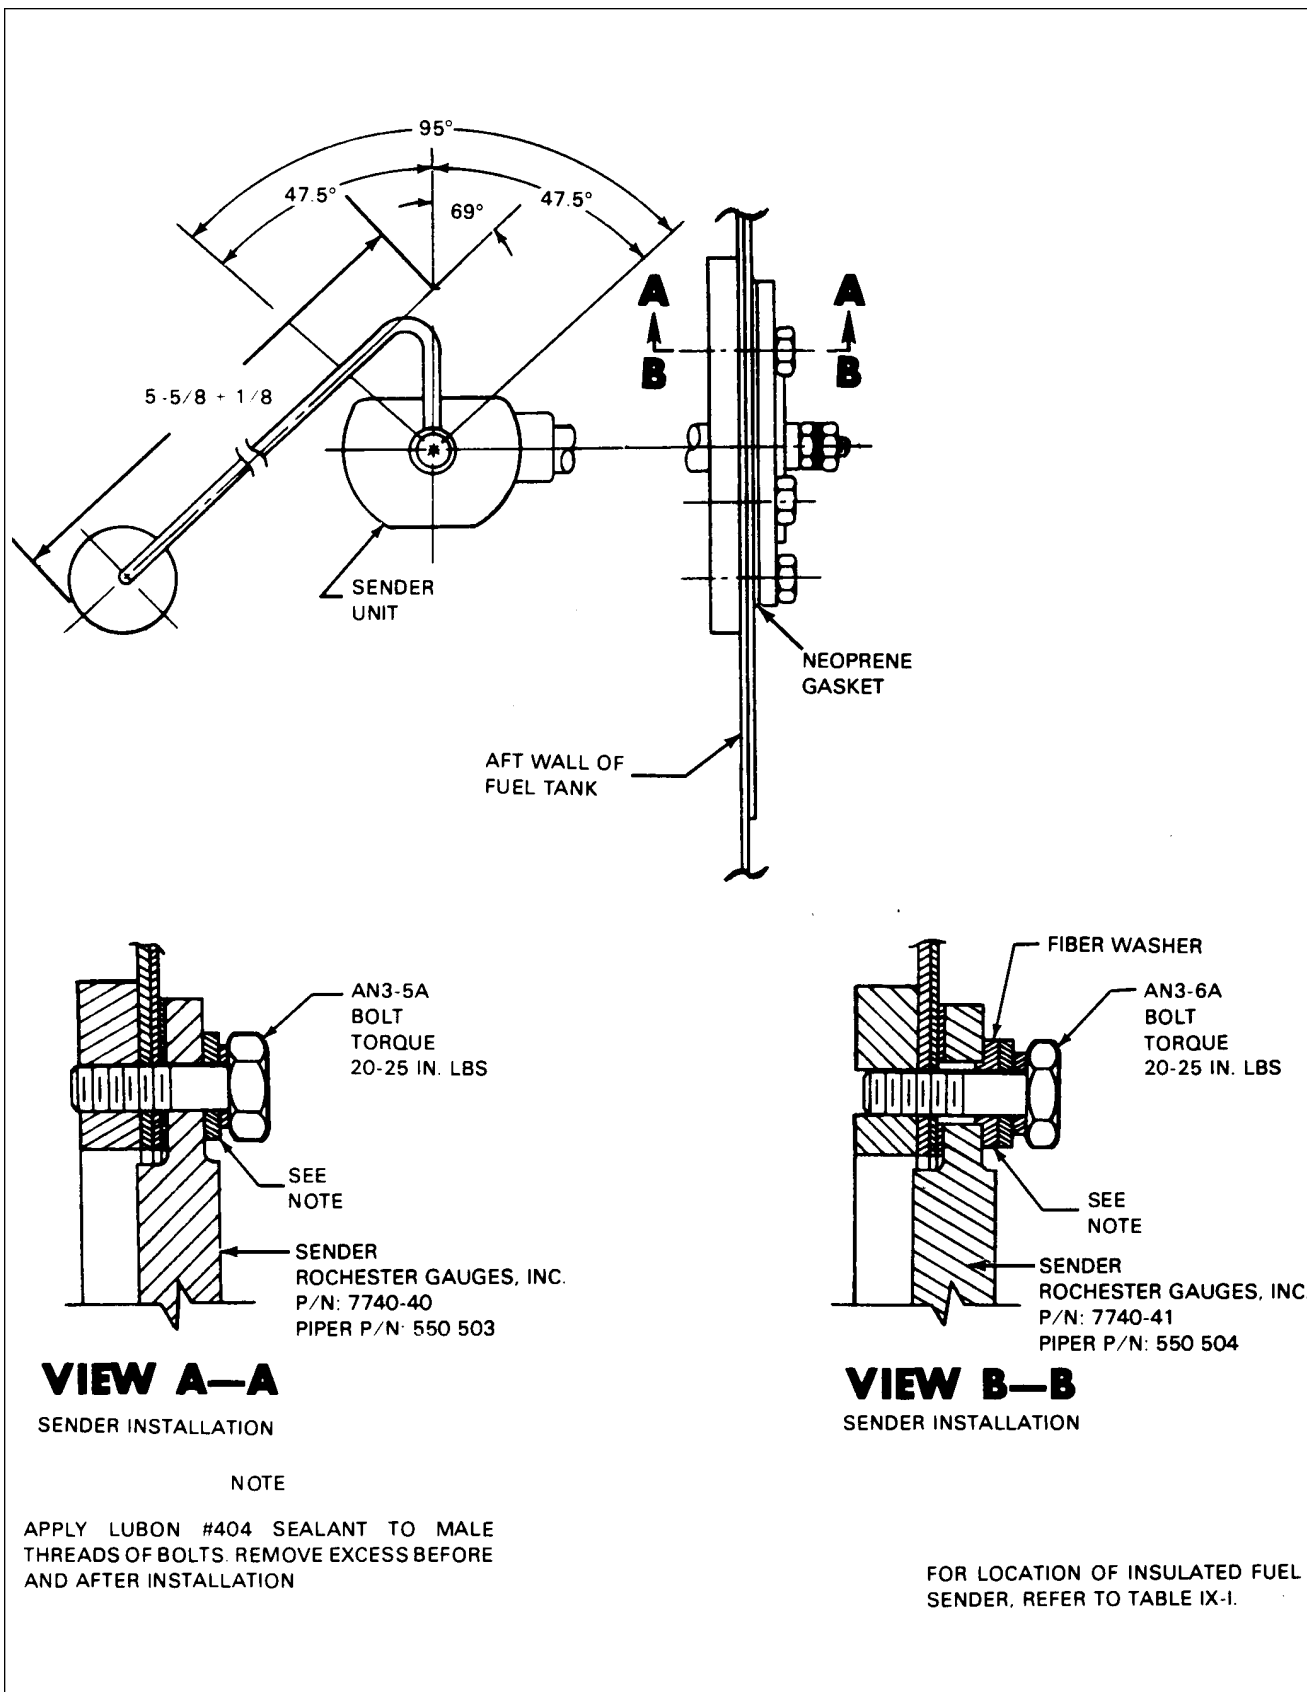

Figure 9-3. Fuel Sender Units Installation
Note: Fuel quantity sender Piper P/N: 550 504 requires fiber washer insulators. Refer to Figure 9-3, View B-B.
#### 9-9. REMOVAL OF TRANSMITTERS. (Refer to Figure 9-3.)
#### 9-10. INSTALLATION OF TRANSMITTERS. (Refer to Figure 9-3.)
*To externally check the float assembly, see Figure 9-3 and Table IX-II. When using the following procedure, the electrical system should apply 14-volts to the gauge.*